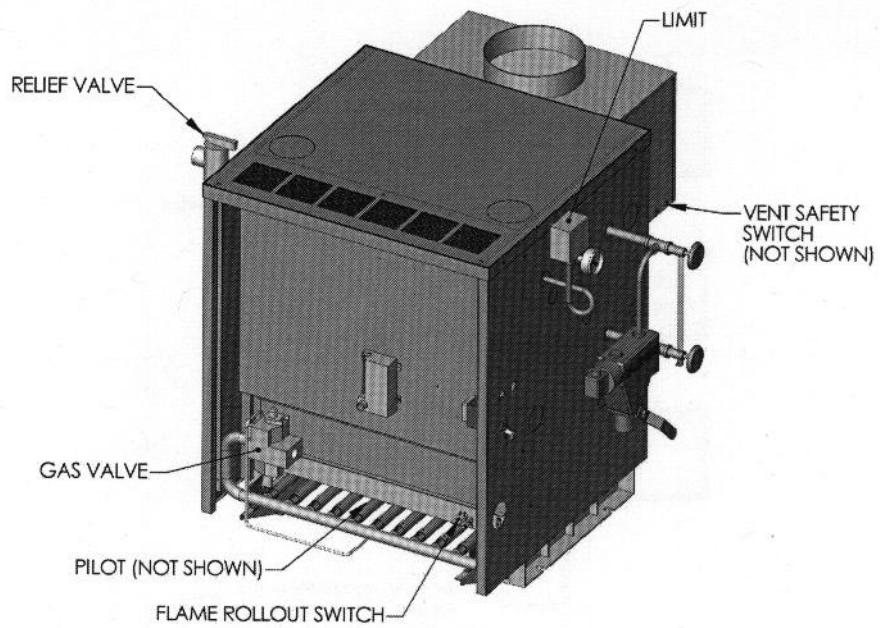

Figure 1: Control Location
B. Control Locations. See Figure 1 for Control and Safety Device Locations.